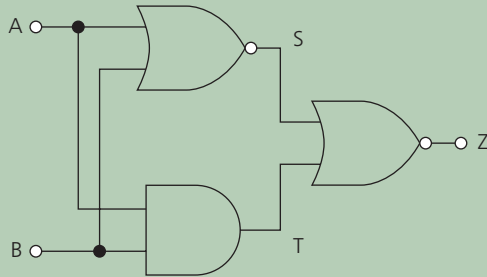

Figure Q3
3. a. Figure Q3 shows a combination of logic gates.